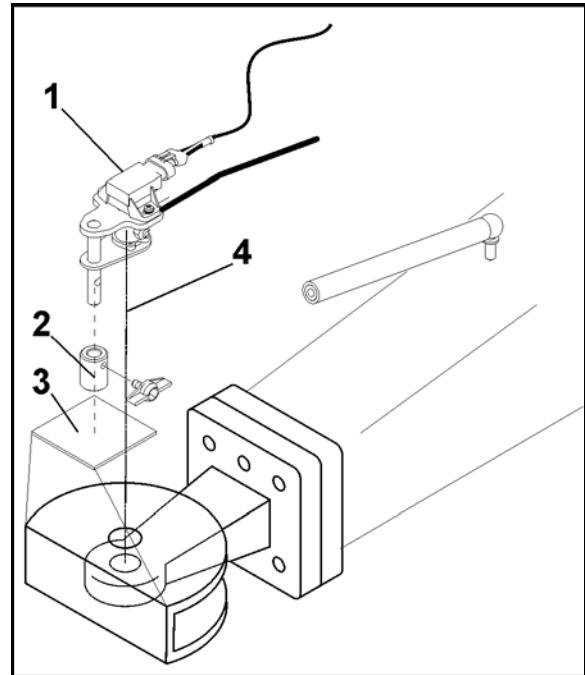

Fig. 118
6. Extend or retract the axle half to the desired position. For this purpose, determine dimension "x" from the outer edge of the base frame (Fig. 118/1) to the centre of the sprayer wheel and extend or retract the axle half accordingly..